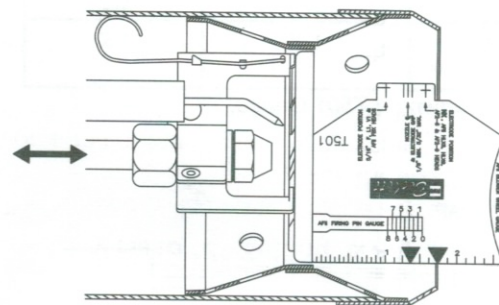

Figure 10.
**For L heads with conic shroud,** set the "Z" dimension (1-3/4") by placing the gauge edge on the leading edge of the head, and aligning the **C** pointer mark with the end of the conic shroud. (See Figure 10.)
Place the gauge edge against the leading edge of the head, and align the **C** mark with the end of the conic shroud shown in Figure 10.